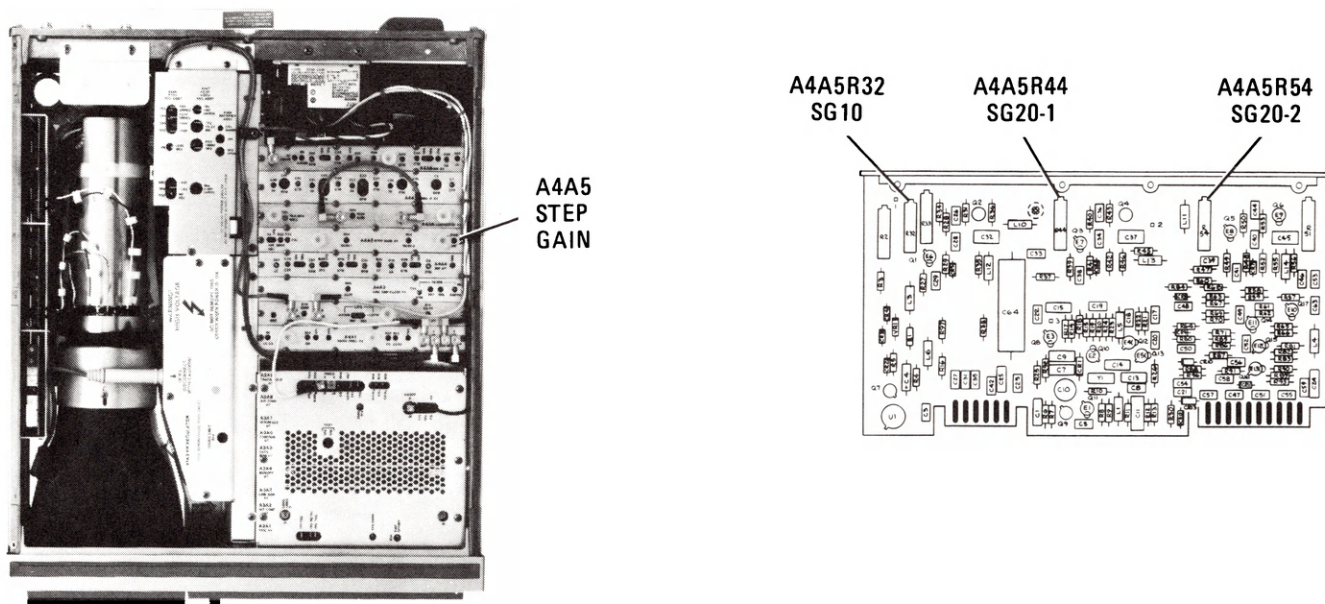

Figure 5-34. Location of 10-dB Gain Step Adjustments
16. Adjust A4A5R32 SG10 for MKR Δ level of .00 dB CRT MKR Δ annotation is now in upper right corner of CRT display. Refer to Figure 5-34 for location of adjustment.
19. Adjust A4A5R44 SG20-1 for MKR Δ level of .00 dB. Refer to Figure 5-34 for location of adjustment.
21. Adjust A4A5R54 SG20-2 for MKR Δ level of .00 dB. Refer o Figure 5-34 for location of adjustment.